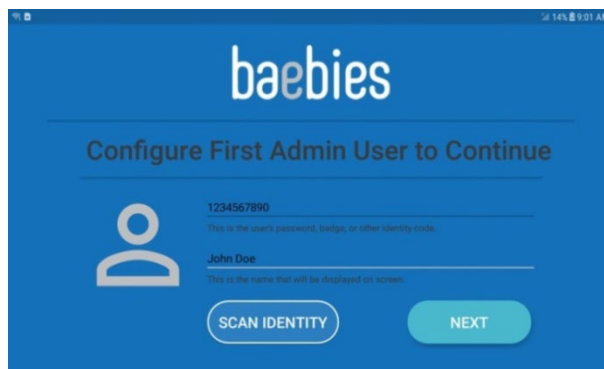

Figure 5 - First Admin User Setup
1. Create the Administrator user account by scanning or manually entering an Identity Code and Display Name (Figure 5). A typical identity code for single individual accounts would be a person's badge number or another personnel identifier. This is illustrated.